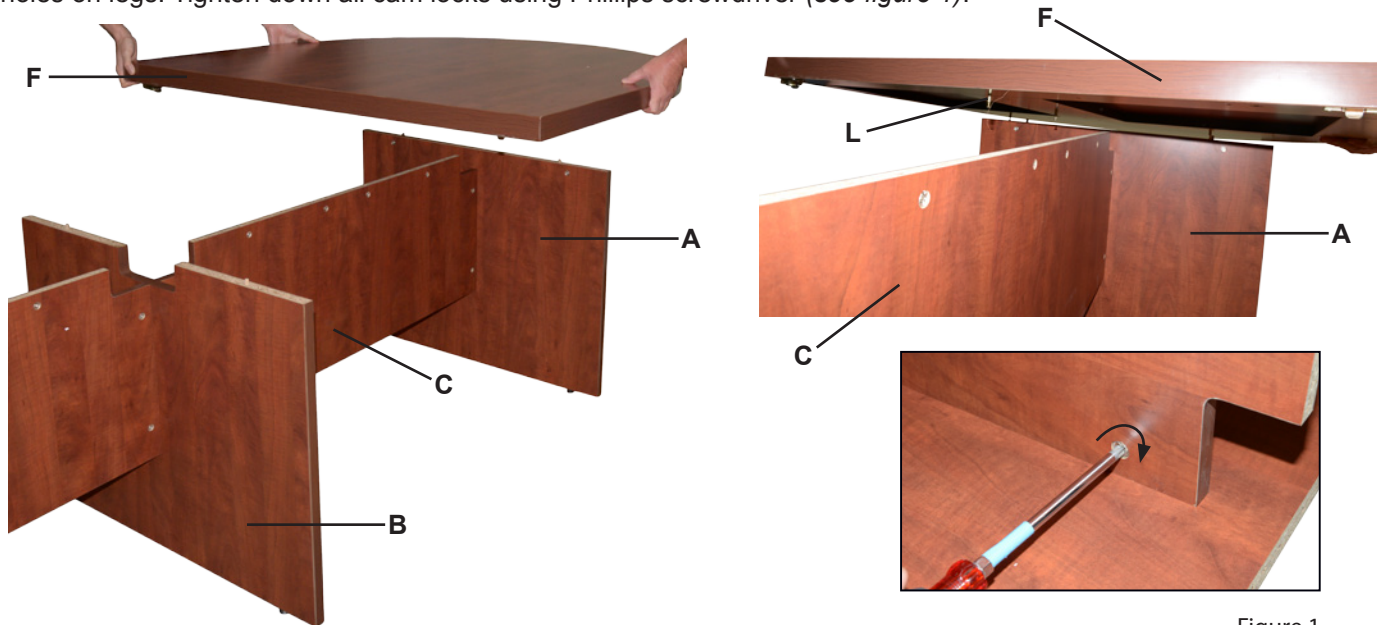

Figure 1
STEP 7: With help from an additional person, lift and attach one **End Top(F)** to assembled base, aligning **Cam Pins(L)** into holes on legs. Tighten down all cam locks using Phillips screwdriver (see figure 1).